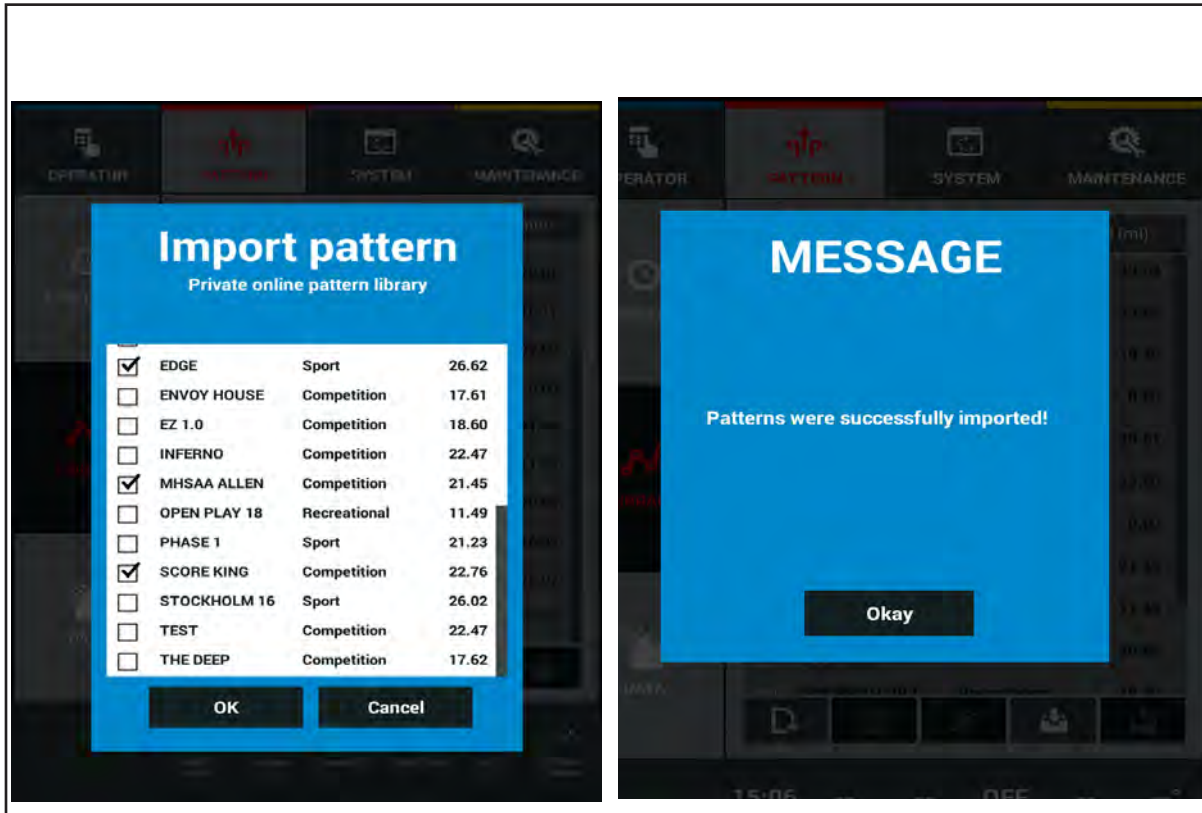

Figure 8-11. Import From Private Library
3. Select the pattern(s) you wish to import by checking the box to the left of the pattern name. When all patterns are selected, press OK. Refer to *Figure 8-11*.